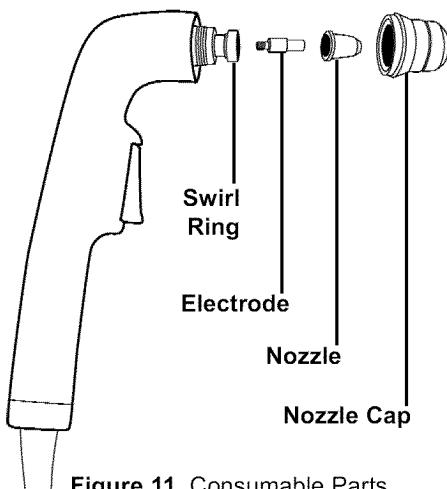

Figure 11. Consumable Parts
4. Replace nozzle cap by firmly turning it clockwise onto torch assembly (refer to Figure 11).
6. Replace nozzle cap by firmly turning it clockwise onto torch assembly (refer to Figure 11).